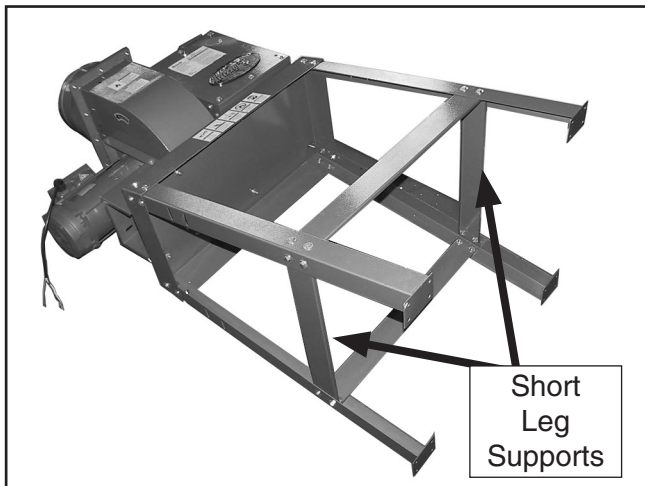

Figure 6. Short leg supports installed.
6. Fasten a short leg support (**Figure 6**) to two legs with four $\frac{3}{8}$ "-16 x $\frac{3}{4}$ " hex bolts, eight flat washers and four hex nuts.
7. Repeat **Step 6** to install the second short leg support. The stand assembly should now look like the example shown in **Figure 6**.